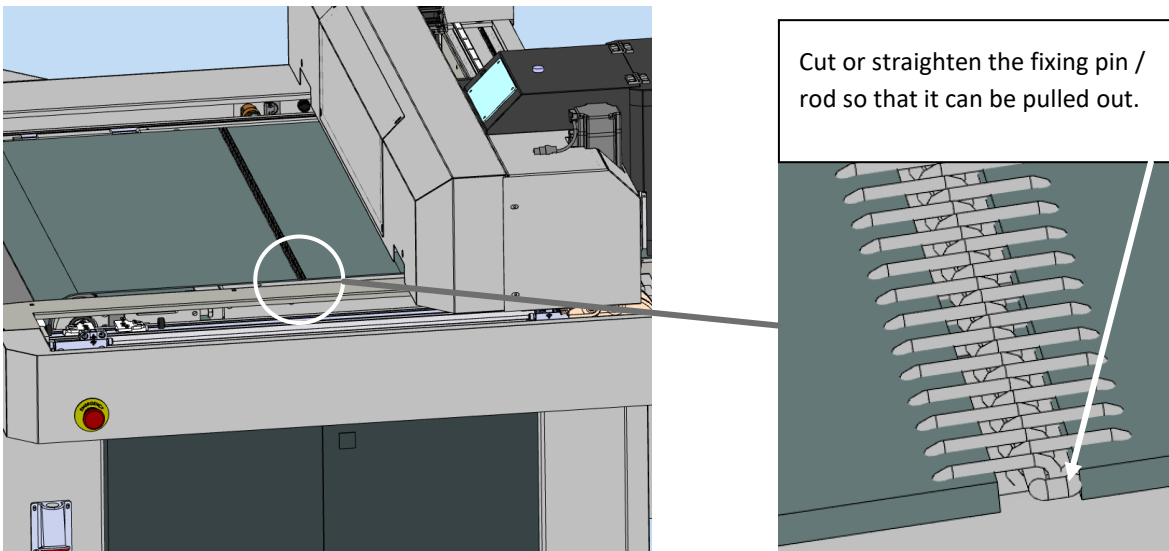

Figure 6-6
- Insert the joint pin and bend the two ends as shown in Figure 6-6.